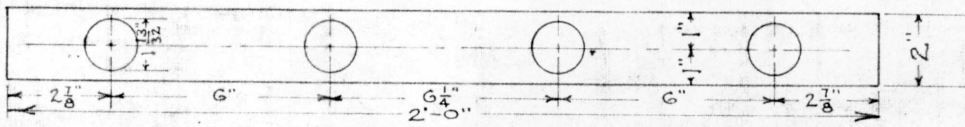

FIG. 4. STEEL STRAP SCALE - 3/16" = 1"
- (c) USE STEEL STRAP, FIG. 4 " " " " " J.